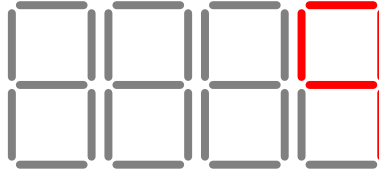

Figure 1: Display configuration with switch SW9 set
Design and implement a circuit that takes as input the switches SW0-SW9 in the Basys3 board and displays the corresponding decimal digit 0–9 on one of the four 7-segment displays on the board. For example, if SW9 is turned ON (and switches SW0–SW8 turned OFF), then the digit 9 should appear on the display as shown in Figure 1.
- Use only one 7-segment display unit, the LSB display, the one shown in Figure 1